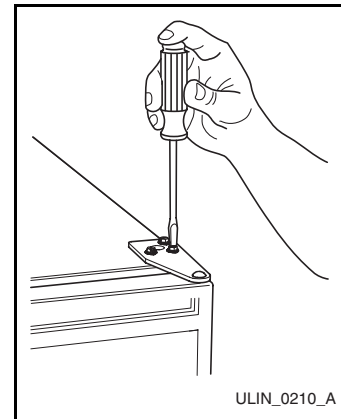

Figure 16
1. Remove top hinge from cabinet (three screws) (**Figure 16**). Hold door to keep it from falling.